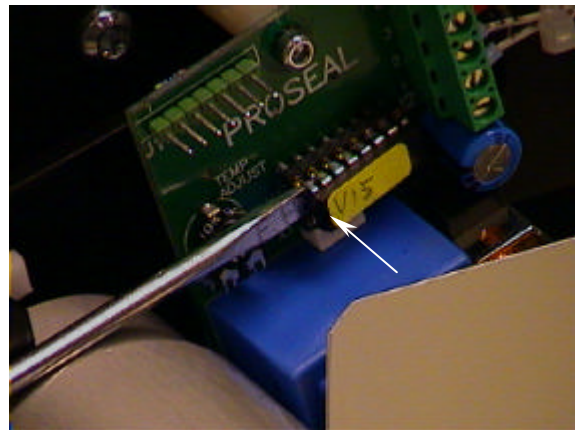

fig. 20
1. Insert the small screwdriver between the processor and its socket, mounted on the PCB. See figure 20. Carefully remove the processor.
3. Carefully insert the new processor. Make sure that the pins do not bend. Make sure as well, that the small notch on the side of the processor matches the symbol, printed on the PCB. The notch must be on the left side (arrow in figure 20).